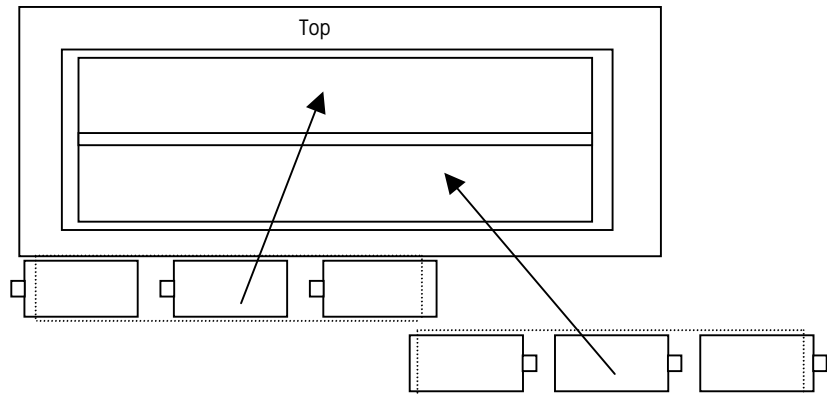

Figure 5-3: Shown With Rear Battery Panel Removed
3. Insert six new or recharged size-D batteries as illustrated on the battery housing (also shown in Figure 5-3).